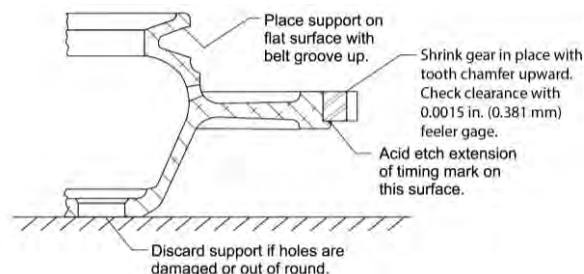

Figure 11
- (1) Put the starter ring gear support on a flat surface (Figure 11) with the alternator/generator belt groove upward.